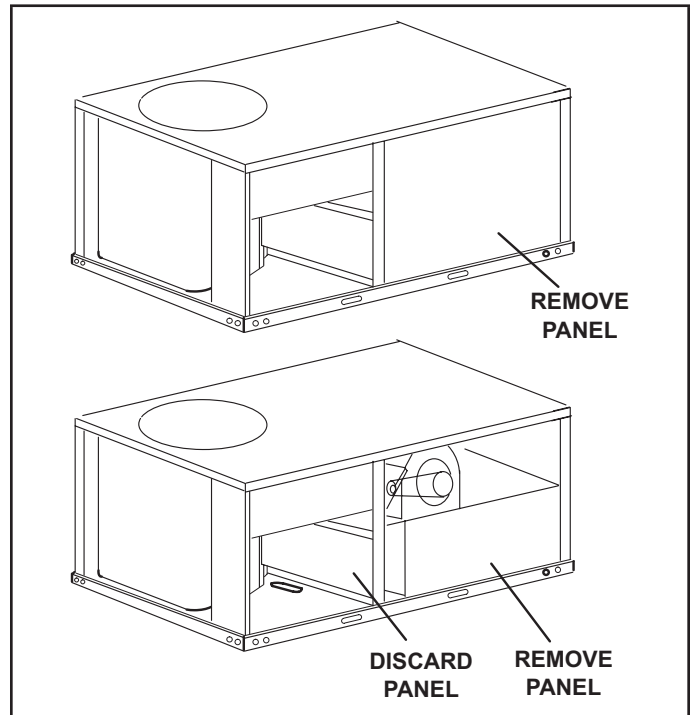
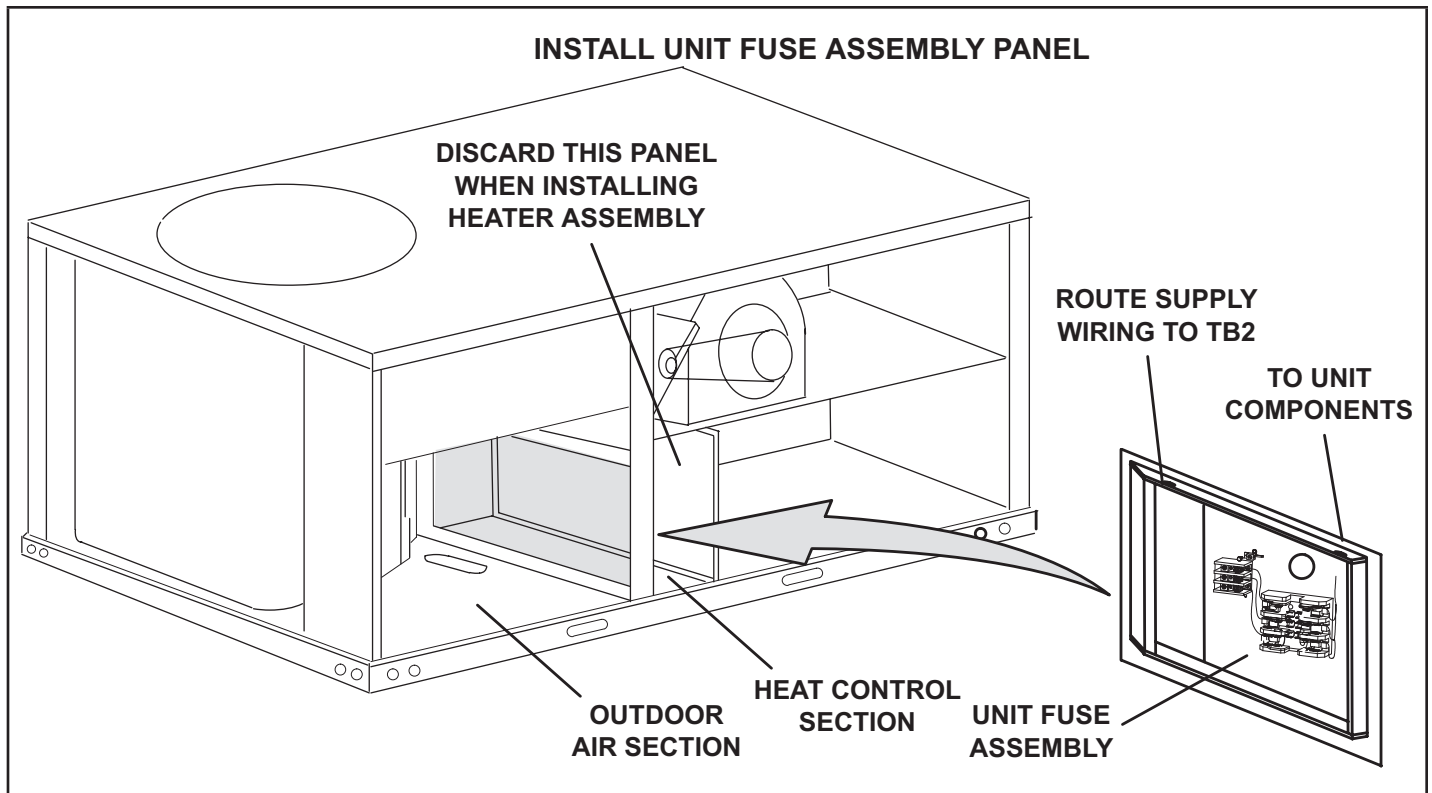

FIGURE 1
FIGURE 2
- 2 - Remove panels as shown in FIGURE 1 and FIGURE 2.
- 4 - Install unit fuse assembly into heat control section. See FIGURE 2. Secure assembly with sheet metal screws from the heat control section.
- 6 - Uncoil wire harness connected to F4 and route through top of assembly and conduit. See FIGURE 2.